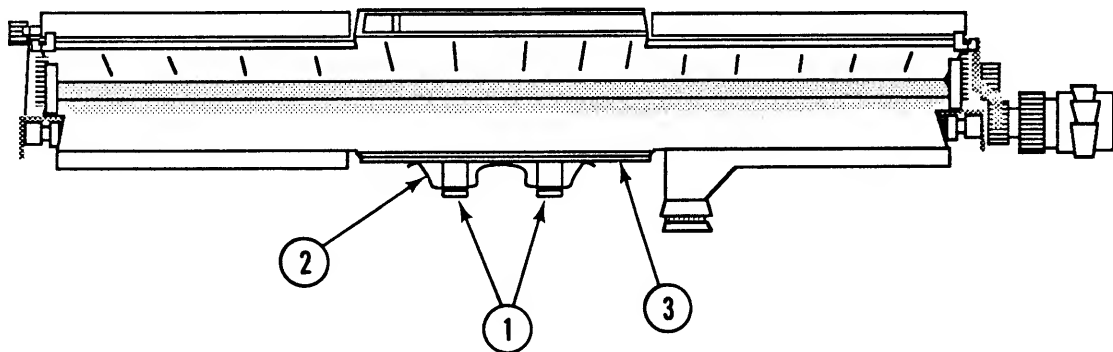

FIGURE 41
2. Remove the two Phillips screws (Figure 41, #1) that secure the leaf spring (Figure 41, #2) and separation pad (Figure 41, #3) to the lower paper guide.